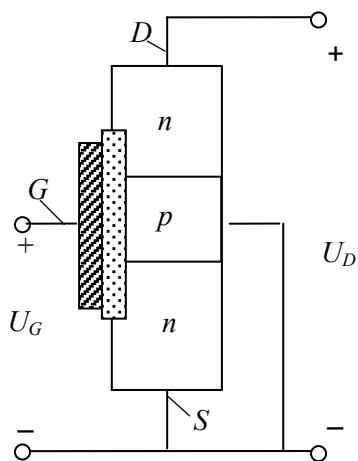
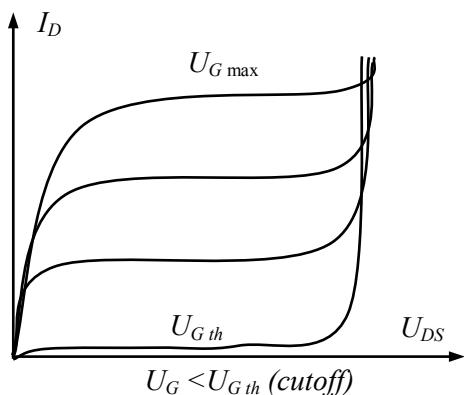

Fig. 1.39
Fig. 1.41
**Enhancement-mode MOSFET.** Figs. 1.39 and 1.40 display an *n*-channel *enhancement-mode MOSFET*. These devices have revolutionized the electronics industry. Because there is no longer an *n* channel between the source and the drain, an enhancement-mode MOSFET is normally off when the gate voltage is zero, whereas a depletion-mode device is normally on. When the gate voltage is positive enough, electrons fill all the holes touching the silicon dioxide. The effect is the same as creating of a thin layer in *n*-type material next to silicon dioxide. This conducting layer is called an *n*-type *inversion layer*. The normally off device suddenly turns on and free electrons begin to flow easily from the source to the drain. The minimum  $U_{GS}$  that creates the inversion layer is called a *threshold voltage*,  $U_{G\ th}$ . Figs. 1.41 and 1.42 reflect a set of drain curves and an input curve for an enhancement-mode MOSFET, where the vertex (starting point) of the transconductance parabola and lowest drain curve are at  $U_{G\ th}$ .